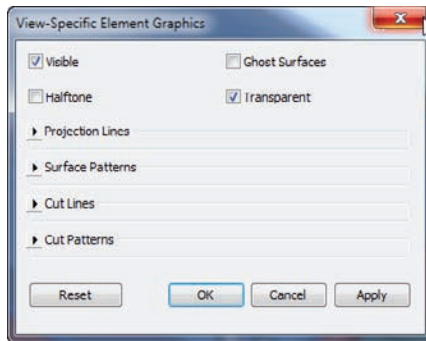

FIGURE 9.11 The View-Specific Element Graphics dialog box
5. In the **View-Specific Element Graphics** dialog box, click the **Transparent** button in the upper-right corner, as shown in Figure 9.11.